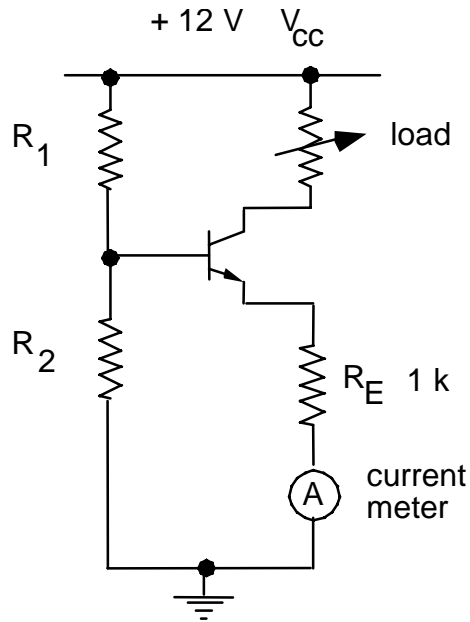

Figure 4-10
☛ A current source (Figure 4-10) will supply a constant current to a range of load resistances. The current that is "sourced" or "sunk" is determined by the emitter potential and the emitter resistor  $R_E$ .
- Using the +12 V power supply built into your prototyping board, connect the circuit shown in Figure 4-10. For the load resistor, use a decade box, set to 2 kΩ to begin.